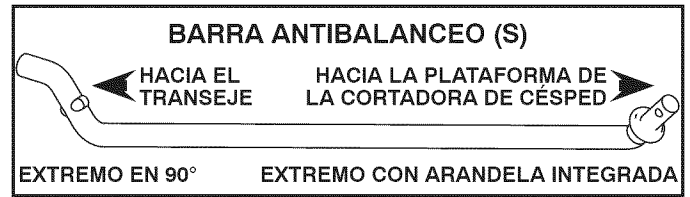

Fig. 26
5. SI LA TIENE, INSTALE LA BARRA ANTIBALANCEO (S) (Vea Fig. 26 - 28)